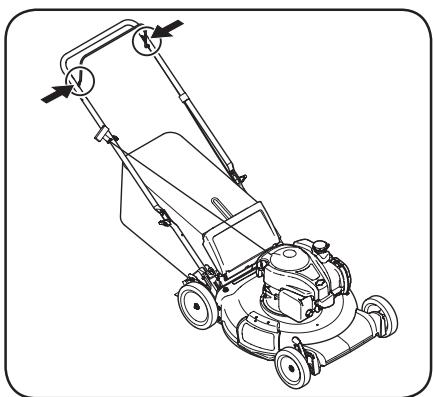

Figure 4-1
- Lubricate pivot points on the blade control at least once a season with light oil. The blade control must operate freely in both directions. See Figure 4-1.